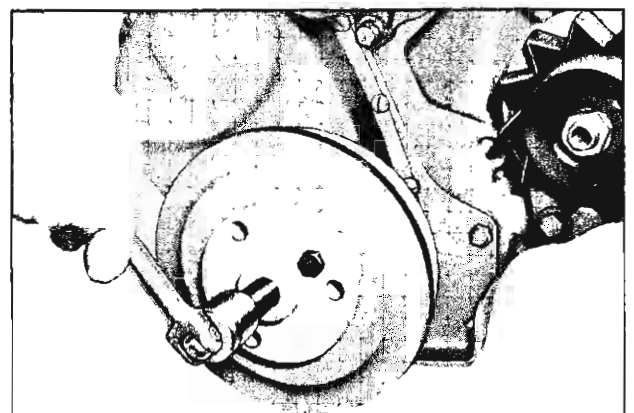

Fig. 19—Removing Harmonic Balancer
4. Install Tool J-6978 or Tool J-1287 to harmonic balancer and turn puller screw to remove balancer and pulley assembly (fig. 19).